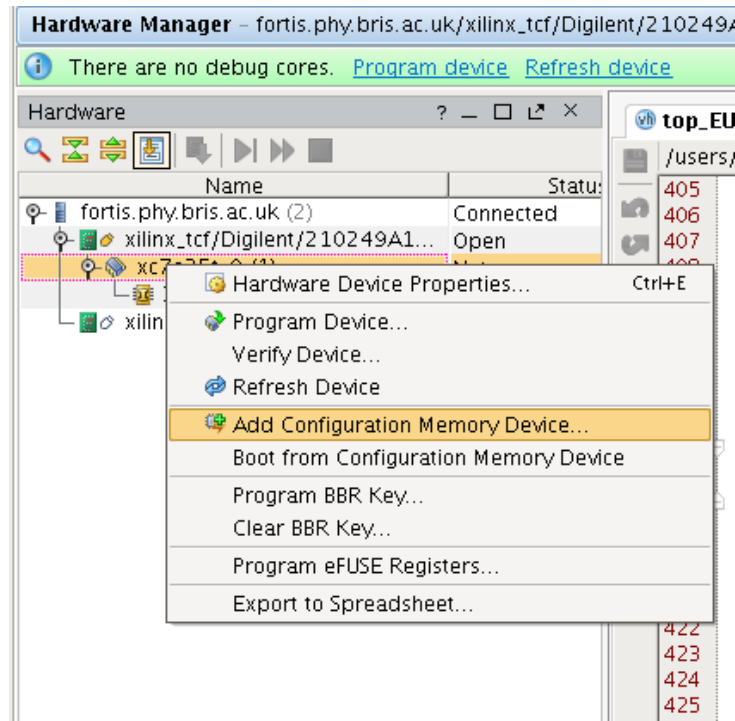
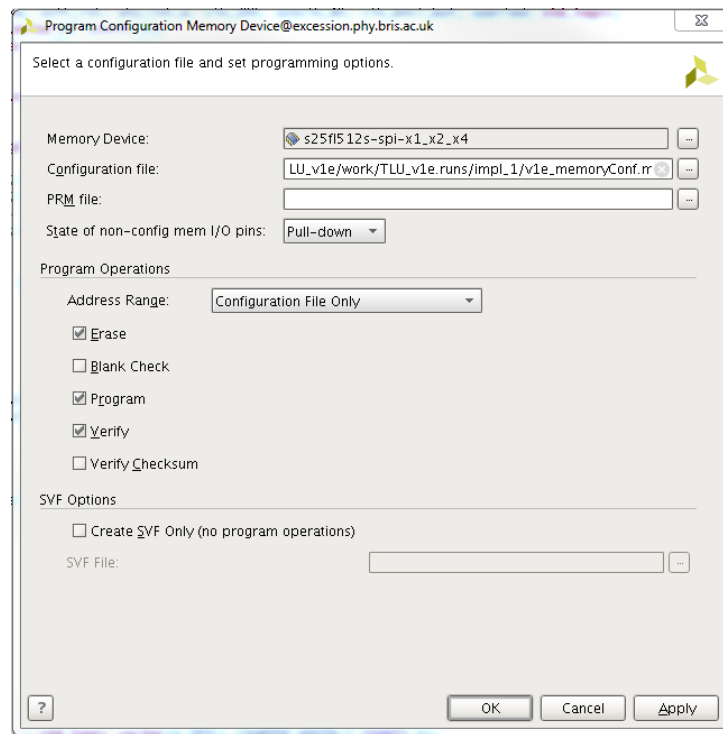

Figure 1.4: Program interface.
Figure 1.5: EEPROM interface. The options shown in the picture are suitable to configure the device correctly.
4. Right click on the FPGA (typically xc7...) and select Program device (see figure 1.4)
The procedure to write a permanent program in the **EEPROM** is very similar to the one followed to write a bit stream file, with the exception that the user should select **Add configuration memory device** in the options, as shown in figure 1.4. This will open a new window, shown in figure 1.5, from which it is possible to indicate the file to use (with extension **.mcr**). Make sure that the options are set as shown in figure 1.5.